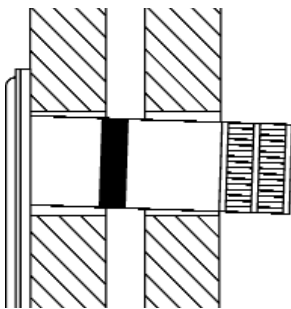

Fig. 7 (side view). Angle of drop shown exaggerated.
4. The flue should run horizontally, or with a slight drop to the terminal, in order to prevent rain entry (Fig. 7).